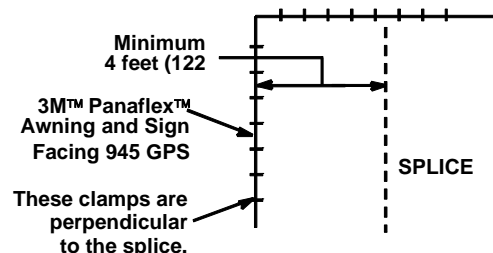

Figure 1. 3M™ Panaflex™ Awning and Sign Facing 945 GPS with Splices
- Position any splice at least 4 feet (122 cm) away from any mounting clamp or material support that is perpendicular (at right angles) to the splice. See Figure 1.